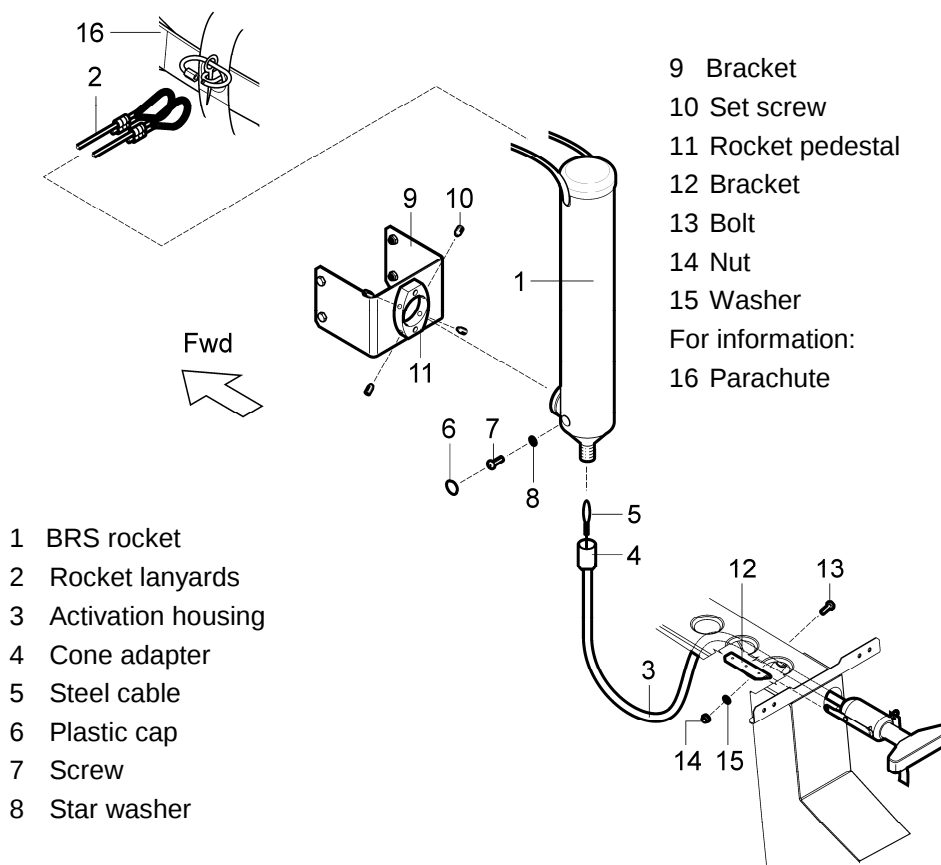

Fig. 7-5: BRS rocket removal / installation
- Pull open the front flap of the parachute (16, Fig. 7-5) and expose the small link; unscrew the link nut and disconnect the rocket lanyards (2).